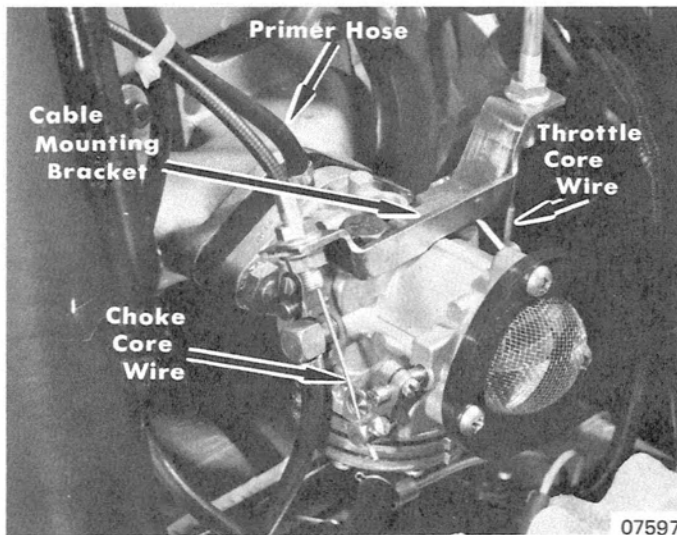

Figure 3. Carburetor Removal
2. Disconnect throttle and choke core wires from carburetor. (Figure 3)
3. Remove operating cable mounting bracket (Figure 3) from carburetor and move assembly to side.
5. Disconnect primer hose from carburetor. (Figure 3)